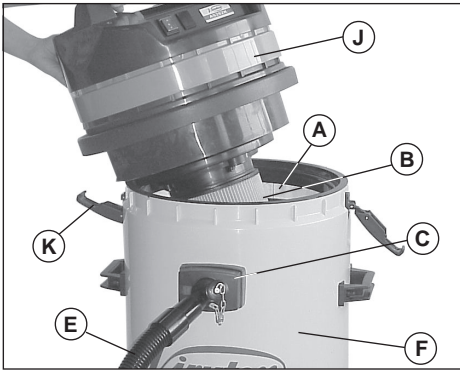
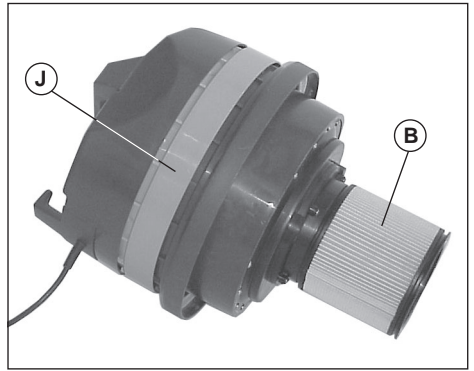

Fig. 1
Fig. 2
- That filter sack A (Fig. 1) or the paper filter bag has been correctly inserted inside the dust collector.
- That supplementary filter B (Fig. 1) has been correctly inserted in the upper part of the body.
- Insert the filters A and B (Fig. 1 and 2). If a paper filter bag is used, install only the cartridge for filter B (Fig.2).
- Assemble the head on tank and block it by hooks K, (Fig. 1).
- Connect the flexible E hose to the inlet C (Fig. 1).
- Remove the filters A and B (Fig. 1 and 2)
- Assemble the head on tank and block it by hooks K (Fig. 1).
- That the bag filter A (Fig. 1), or the paper filter bag is correctly inserted inside the aspirator.
- That the supplementary filter B (Fig. 1) is correctly inserted in the upper part of the body.